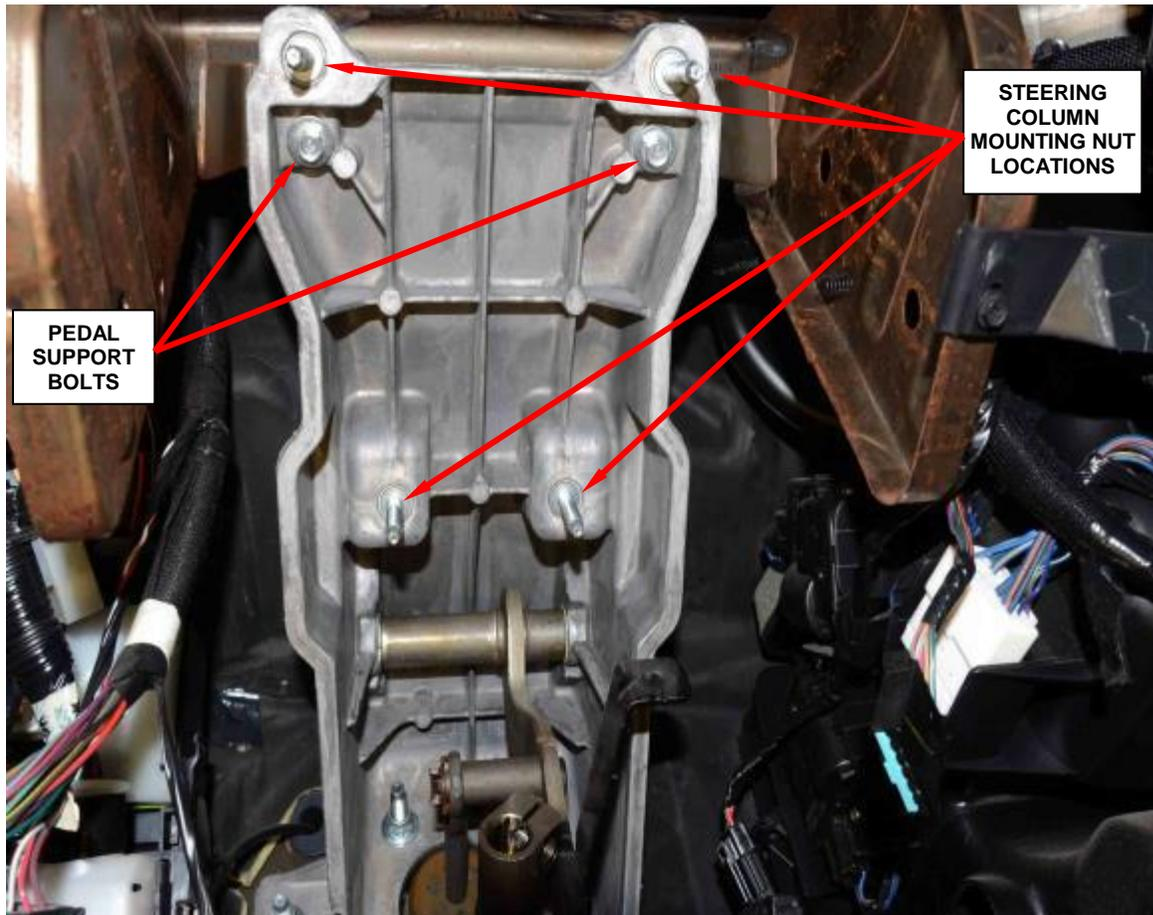

Figure 72 – Pedal Support Bolts
18. Remove the bolts from the pedal support (Figure 72).